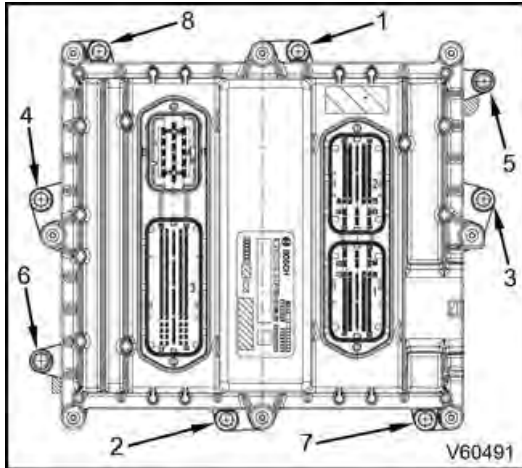

Figure 30. ECM Bolt Tightening Sequence
21. Position ECM on ECM support and install eight M6 x 30 bolts finger tight. Torque bolts in sequence shown to 89 lb·in (10 N·m) (Figure 30).